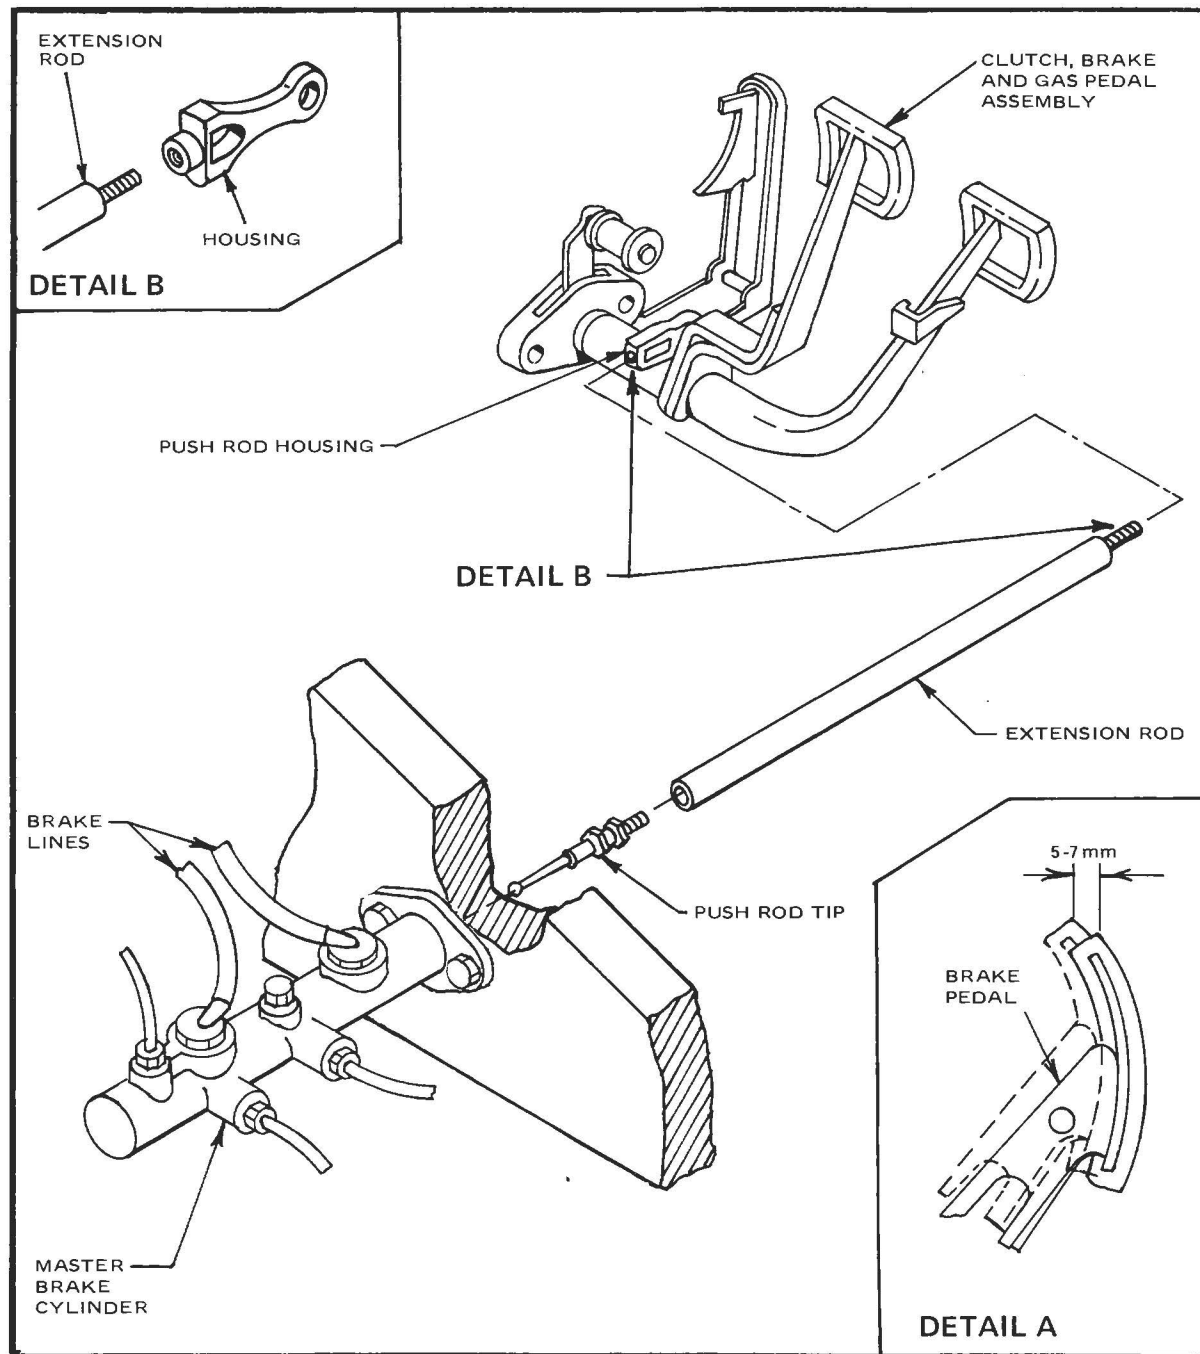

Figure 5
- ☐ Remove brake pushrod tip from the pedal assembly by unscrewing the pushrod tip from the housing. Assemble the brake extension by screwing the pushrod into one end and the housing on the other (Refer to Figure 5).